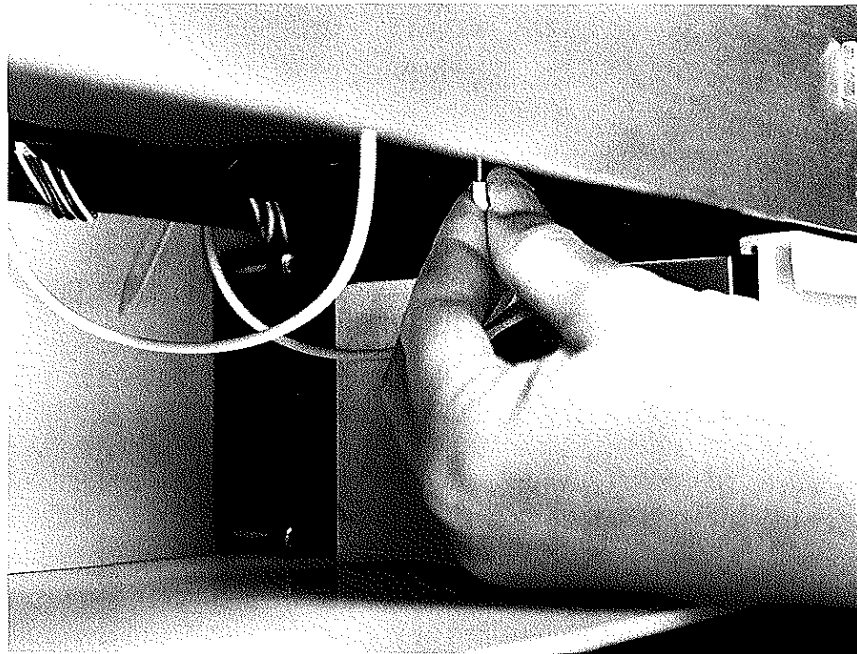

Figure 8-11
10. Connect the tubing to the stain spout under the platen (Figure 8-11). Check all connections to make sure the tubing is securely in place.